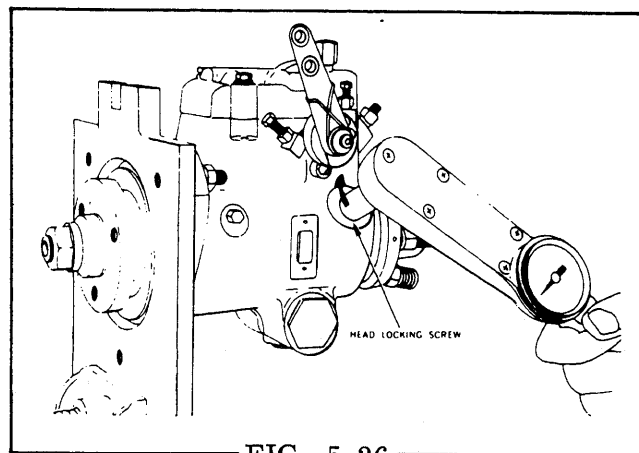

FIG. 5.26
STEP 26 Tighten the two head locking screws to the specified torque (Fig. 5.26).